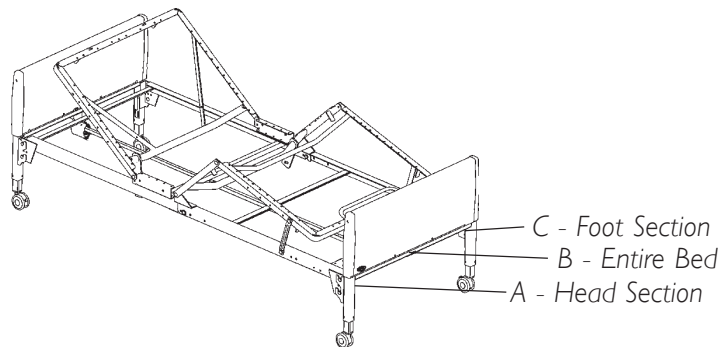

FIGURE 6 - PLACEMENT OF EMERGENCY CRANK (FULL ELECTRIC BED OPERATION - 5410IVC SHOWN)
EMERGENCY CRANK (FIGURE 6)
2. Locate the exposed shaft end according to the function you want to perform. Refer to FIGURE 6.